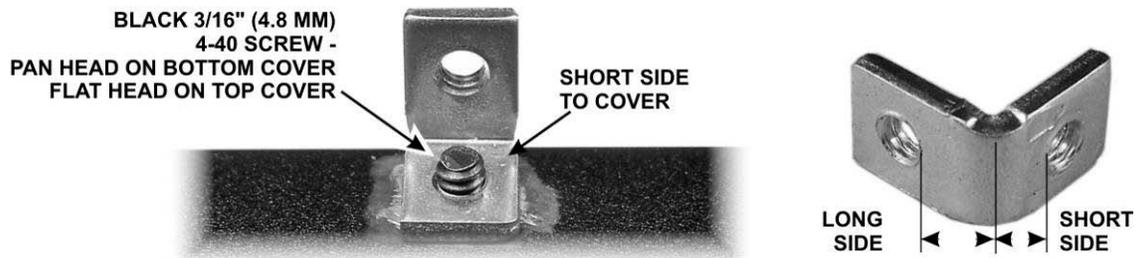

Figure 10. Installing Angle Brackets on the Covers.
At the mid-point along each side of the bottom and top covers is a screw hole. Mount the four angle brackets in these holes as shown in Figure 10. Be sure all six holes of each cover have clean metal on the *inside* surface. **Do not remove paint on the outside surface!** Be sure to use pan head screws on the bottom cover brackets and flat head screws on the top cover brackets. The holes in the top cover are counter sunk for the flat head screws. Check to ensure the brackets are oriented as shown. If you install the bracket backwards the case parts will not fit correctly.
- Inspect the inside surface of the side covers to ensure there is bare metal around each screw hold for good contact with the angle brackets or 2D fasteners. Be sure that you clean away paint on the inside surface, not the outside (see Figure 10, page 59). The screw holes are **not** counter sunk on the inside surface of the panels. They are counter sunk on the outside surface.
- Mount the side panels, using five 3/16" (4.8 mm) flat head screws in each panel. The center top hole will be filled when you install the top cover later. Although the panels are identical, they only fit one way so the holes align with the fasteners. If a screw binds or does not line up properly, loosen the other screws holding the 2D fastener or the screw into the L- bracket so it can move slightly for better alignment. If a side panel seems pushed away from the bottom cover at the center, check the L-bracket carefully. The usual cause is an L-bracket installed incorrectly (see Figure 10).
Mount the top cover. Orient it with the notch to the rear. (The notch is to make the cover easy to remove with a fingernail or small tool if needed.) Secure the cover with six 3/16" (4.8 mm) flat head screws; four on the top and one through each side panel. If the angle brackets on the top cover do not fit properly, check the orientation of the L-bracket carefully. The usual cause is an L-bracket installed incorrectly (see Figure 10).
The top, bottom and sides are supported at the center by L-brackets (Figure 10 on page 59).